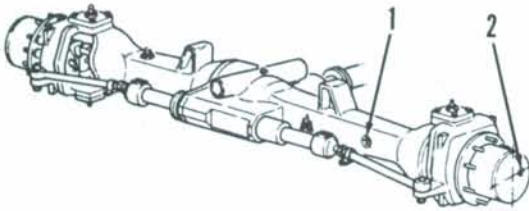

Fig. 5—View of front drive axle showing location of axle housing oil level check plug (1) and planetary final drive housing oil level/drain plug (2).
6. Oil level in front axle housing and final drive housings should be checked after every 500 hours of operation. See Fig. 5. Manufacturer recommends renewing lubricant after every 1000 hours of operation or yearly, whichever comes first. Fill housings to level plug openings with SAE 90, API-GL 5 gear lubricant. Capacity is approximately 5 liters (5.25 quarts) for axle housing and 1 liter (1.1 quarts) for each final drive housing.